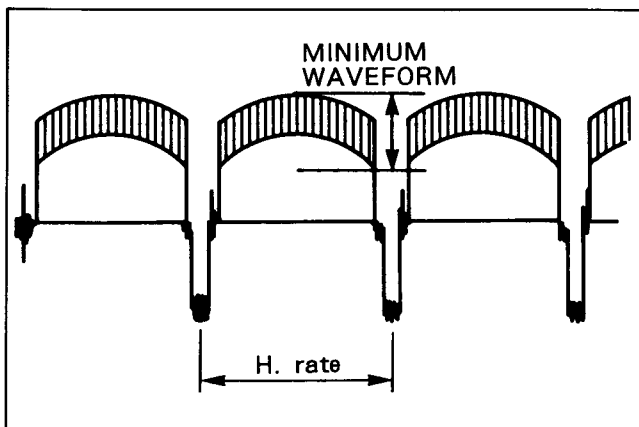

Fig. C25
- (1) Adjustment condition and procedure are same using vectorscope.
- (2) Adjust VR311 and VR312 so that the waveform minimized as shown in Fig C25.